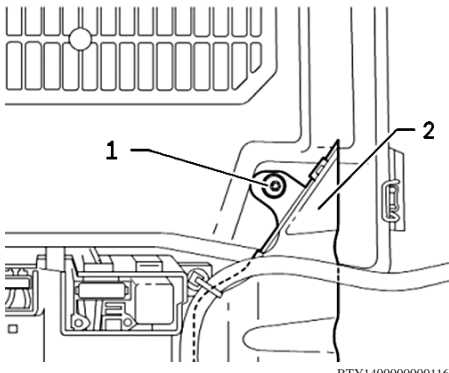

Fig. 4 Air duct removal
9. **On models equipped with rear A/C system**, remove bolt (1) and air duct (2), **Fig. 4**.
9. **On models equipped with rear A/C system**, install air duct (2) and bolt (1), **Fig. 4**.